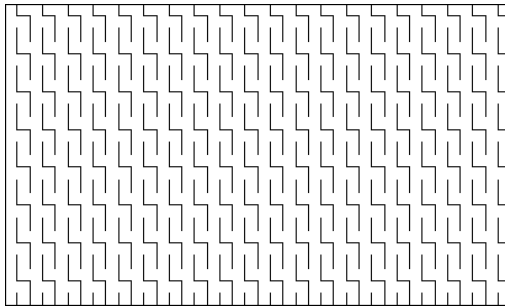

Figure 31-11: The lightning hatch pattern.
10. Choose `Select Objects` and pick the rectangle in your drawing. Press Enter. Click `OK`. The rectangle fills with the lightning hatch, as shown in Figure 31-11.